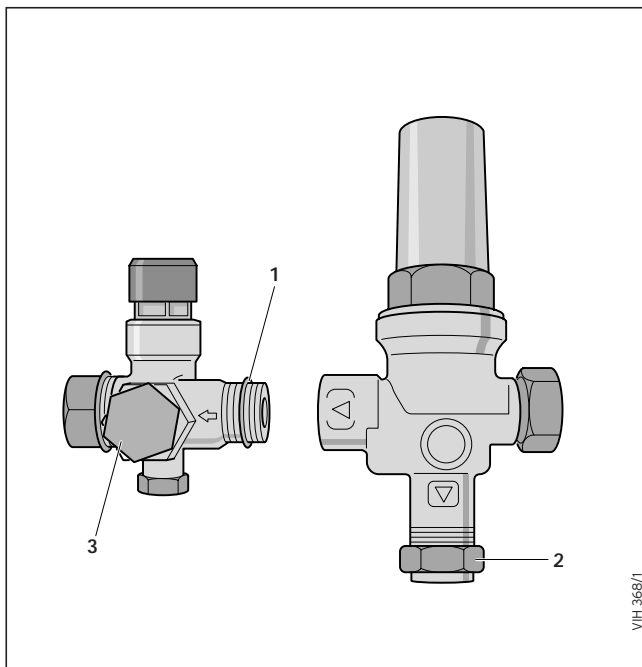

Fig. 11
- Connect the two cold water control valves together as shown in fig 11., ensuring that the orientation of the valves, when installed in the cold mains supply, allows the 15 mm outlet of the expansion relief valve to be connected to the tundish.
- Provide a cold water mains supply to the VANTAGE. To ensure optimum performance from the VANTAGE, and particularly in installations where the balanced pressure cold water outlet (2, fig. 11) is to be used, the pipework provided from the building mains stop valve to the VANTAGE cylinder should be minimum 22 mm copper tube.
- Install the assembled cold water control valves (fig. 11) in the cold mains supply at a convenient position adjacent to the VANTAGE cylinder, ensuring adequate space exists for service access.
- i. Screwing the vessel directly into the control assembly at the purpose provided connection (3, fig. 11) or,
In areas where the mains water pressure is high (4 bar or above) the cold water supply to a bath or shower mixer valve can be taken from the balanced pressure cold water outlet (2, fig. 11) of the cold water controls. This will ensure that both hot and cold supplies to the mixer valve are at approximately the same pressure. The cold water supply for all other terminal fittings should be teed into the cold water supply pipework to the VANTAGE upstream of the cold water controls.